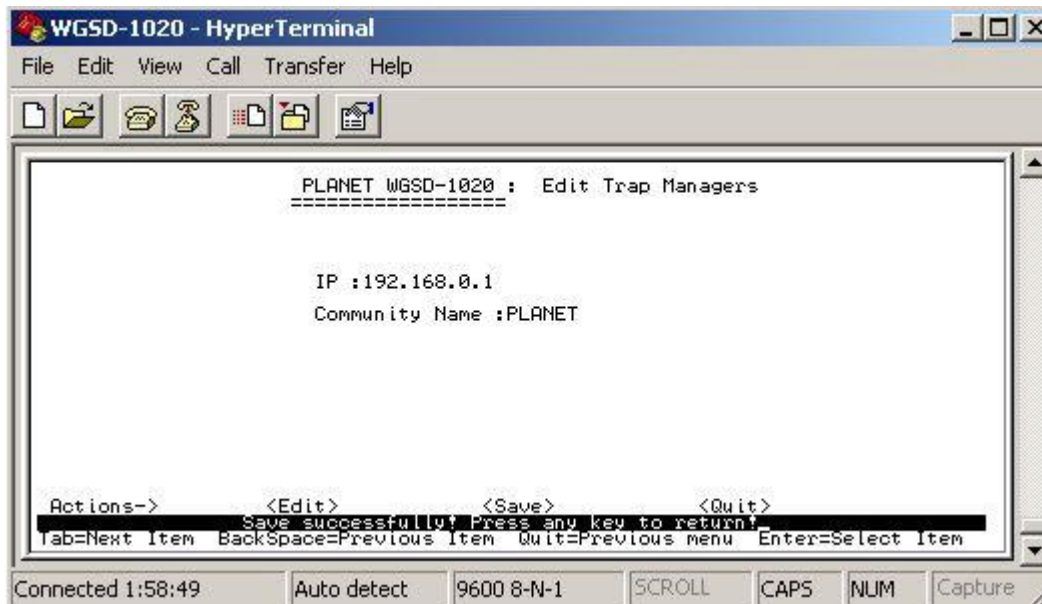

Figure 4-61 Add Trap managers screen
2. After setup completed, press **"Ctrl-A"** to **"Action menu"** and choose **"save"** to save the current configure. The screen in Figure 4-61 appears.